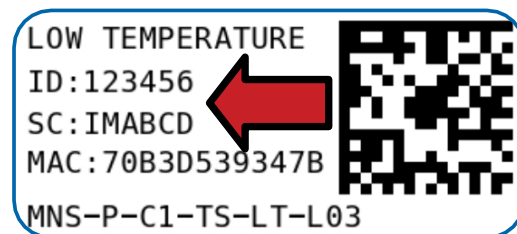

Figure 2
2. Find the device ID. See Figure 2.